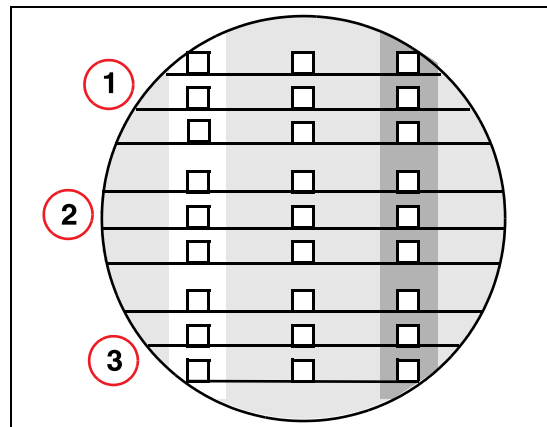

Fig. 3: Actual value
- Mark the non-visible plexi capillaries with a cross in the actual value table (Fig. 3 / p. 26).
=> The bright-dark transitions become clearer when changing (30/Fig. 3 / p. 13) the edge enhancement selection.
=>The contrast changes noticeably in the case of an LUT selection change (29/Fig. 3 / p. 13).